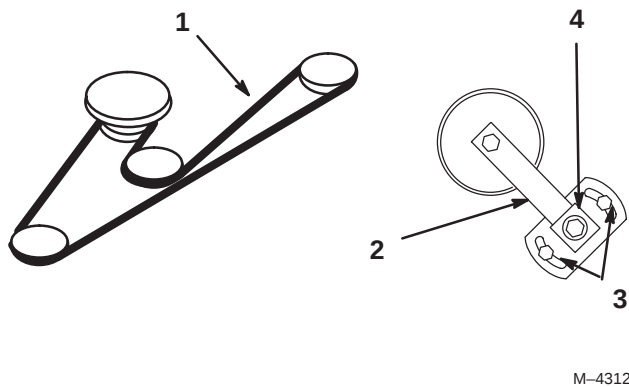

Figure 63
- Loosen both nuts securing idler plate and move the idler arm to relieve belt tension on the idler pulley, then remove the worn deck belt (Fig. 63).
- Install the new deck belt around the spindle pulleys, belt guide, the idler pulley, and in the lower groove of the center spindle pulley (Fig. 63).